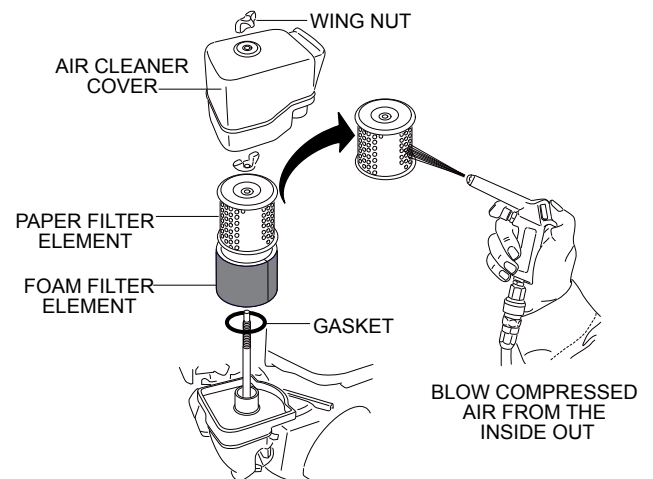

Figure 27. Engine Air Filter (Cyclone Type 2)
The Honda GX390UT2SCM engine is equipped with a replaceable, high-density paper air cleaner element. See (Figure 27) for air cleaner components.
2. Blow compressed air through the air cleaner cover as shown in Figure 27. Clean inside of air filter cover with warm, soapy water or nonflammable solvent. Rinse and dry thoroughly.